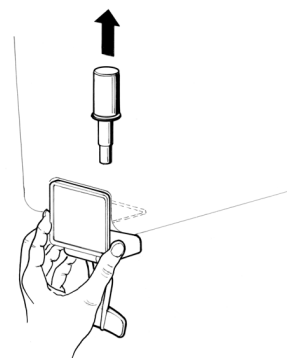

figure 5
- 6 **Gravity faucet:** extract the piston and then remove the dispensing handle (see figure 5).